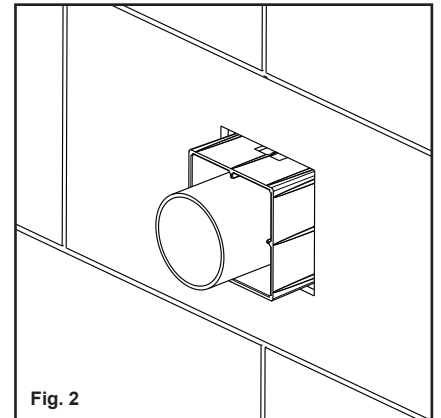

Fig. 2
2. Ensure the horizontal flush pipe is pushed down to the lower position. The tiler can then tile the wall making sure to tile up to the tiling box, as shown in **Fig 2**.